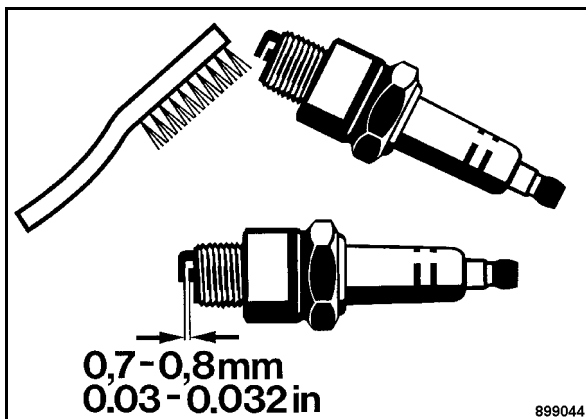

Fig. 74
- Check the spark plug and clean if necessary (Fig. 74).